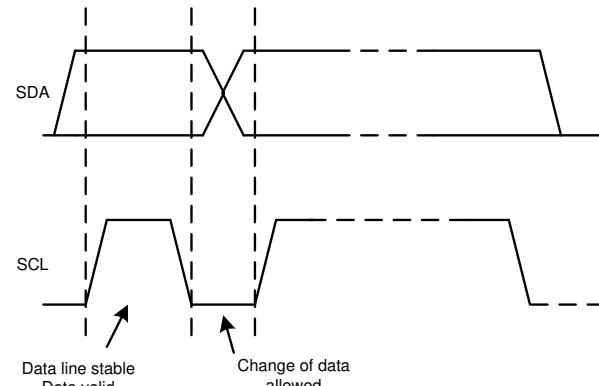

图 7-22. Bit Transfer on the I²C Bus
2. The controller then generates the SCL pulses, and transmits the 7-bit address and the read/write direction bit (R/W) on the SDA line. During all transmissions, the controller makes sure that data are valid. A valid data condition requires the SDA line to be stable during the entire high period of the clock pulse, as shown in 图 7-22. All devices recognize the address sent by the controller and compare the address to the respective internal fixed address. Only the target device with a matching address generates an acknowledge by pulling the SDA line low during the entire high period of the 9th SCL cycle, as shown in 图 7-20. When the controller detects this acknowledge, the communication link with a target has been established.